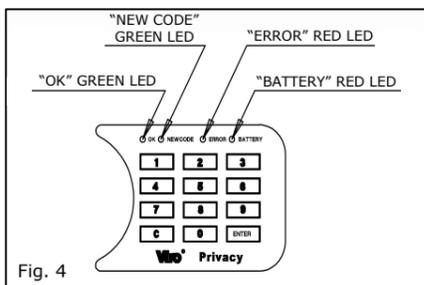

Fig. 4
ATTENTION: Use only AA LR6 type 1,5V alkaline batteries. All 4 batteries of the same safe must be replaced at once. Do not use together new and old batteries or batteries of a different type and quality. **When the batteries are almost empty each time you open there will be a blink of the "BATTERY" red LED (see Fig. 4): replace then the batteries.**
1. **With door opened** (retracted lockbolts) press and release "C" key on the keypad: "NEW CODE" green LED will light up (see Fig. 4).